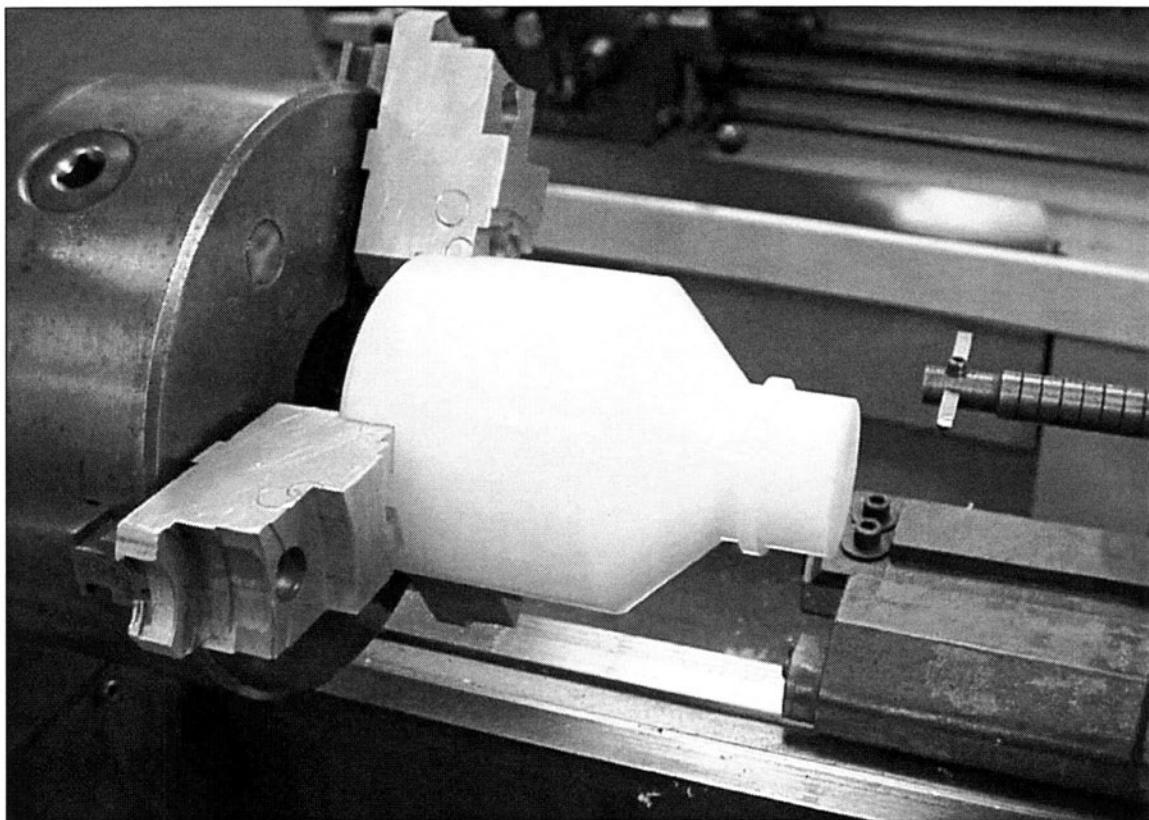

FIGURE 4-6 Boring soft jaws may be the only way to get parts to run concentric in worn-out three jaw chucks.
8. *Use aluminum soft jaws to hold finished surfaces. (See Fig. 4-6)*